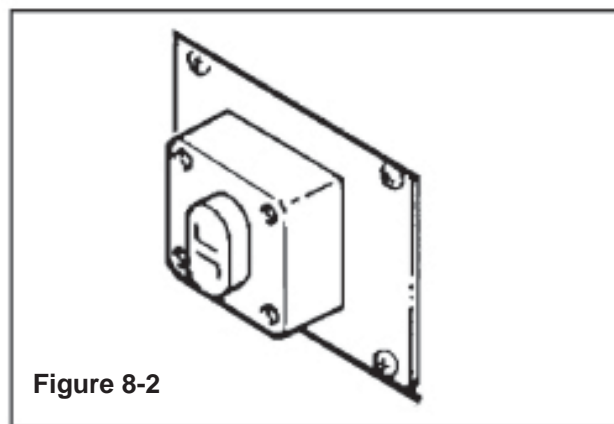

Figure 8-2
- Turn Main Switch to ON Position (**Figure 8-2**).
- The main switch start switch "ON" (**Figure 8-2**)